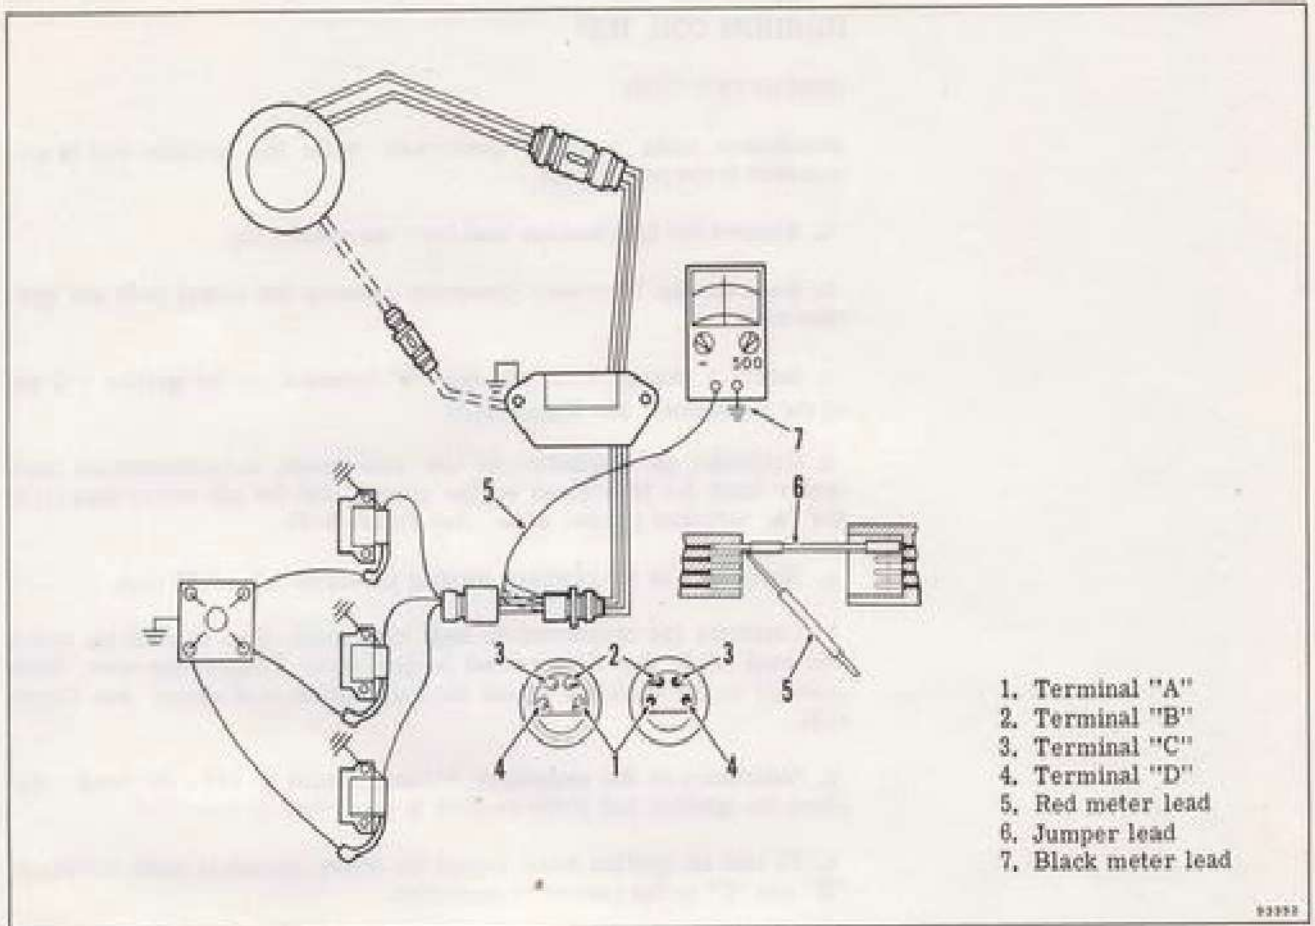

Figure 4-29. Power Pack Output Test
- c. Insert jumper leads between "A" terminals of connectors. See Figure 4-29.